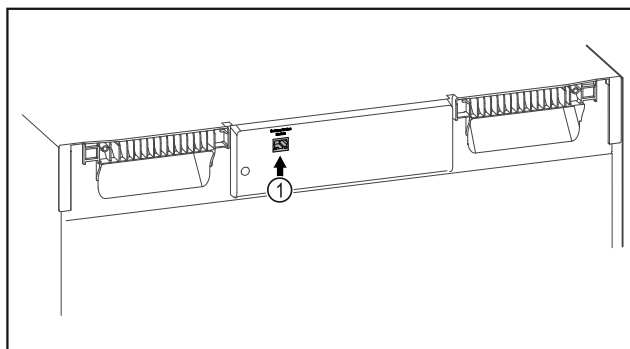

Fig. 88
- SmartModule Fig. 88 (1) is in use.